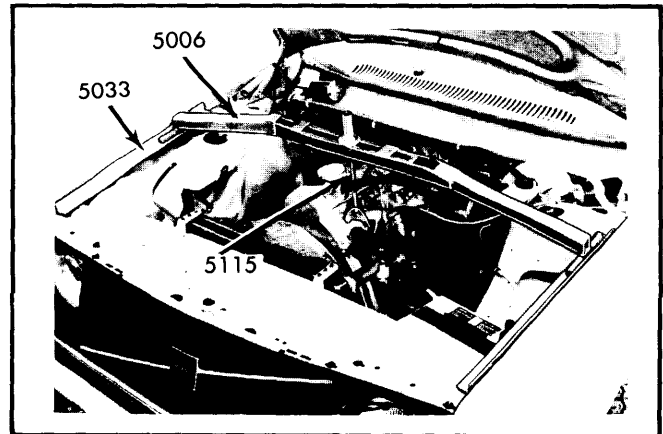

Fig. 4 Removing Oil Pan
**Removal** — Position lifting tools (5006, 5033 & 5115) as shown in Fig. 4. Disconnect A/C compressor (if equipped). Remove bolts from left engine mount. Lift engine slightly and drain oil. Remove splash guard, left engine mount, and brace. Remove bolts from oil pan and tap to loosen.